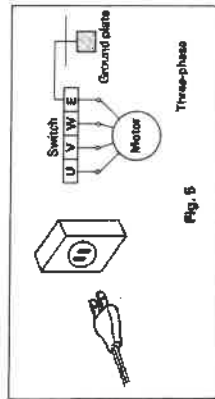

Fig. 5
- (1) Wiring
- a) Wire as indicated for the appropriate start system as shown in Fig. 5.
- (2) Cable
- (3) Grounding